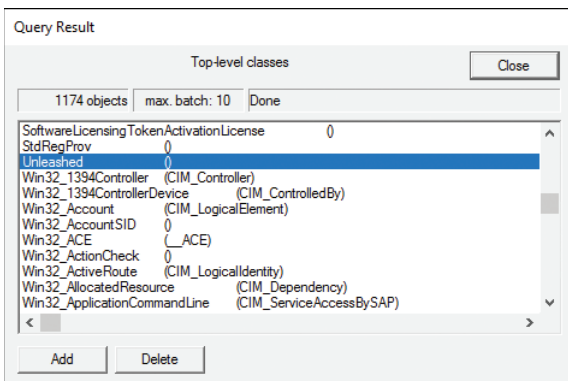

FIGURE E.4 WBEMTest query result.
3. To use WBEMTest to query WMI to verify that the `Unleashed` class was created, open WBEMTest.exe and click **Connect**. In the NameSpace field, type `root\cimv2` because that is where you added the `Unleashed` class. Click **Connect**. Once connected, click **Enum Classes** to open the Superclass Info box. Select **Recursive** and click **OK** to open the Query Result box. Browse the query result box to see if `Unleashed` is available; it should be situated below `StdRegProv`, as shown in Figure E.4.